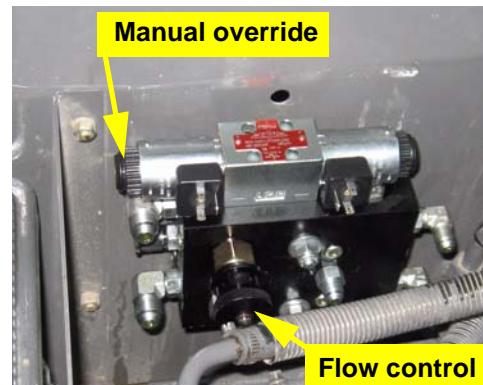

Figure 11: Steering block manual override and flow control
- Turn counter clockwise to increase flow (Figure 11).
- The coils on the Automated Steering Block have manual push button overrides. Push either manual override to move the steering wheels all the way to one extreme (Figure 11).
- While pressing the override button of the other coil, count the number of seconds for the steering wheels to move all the way in the opposite direction (Figure 11).